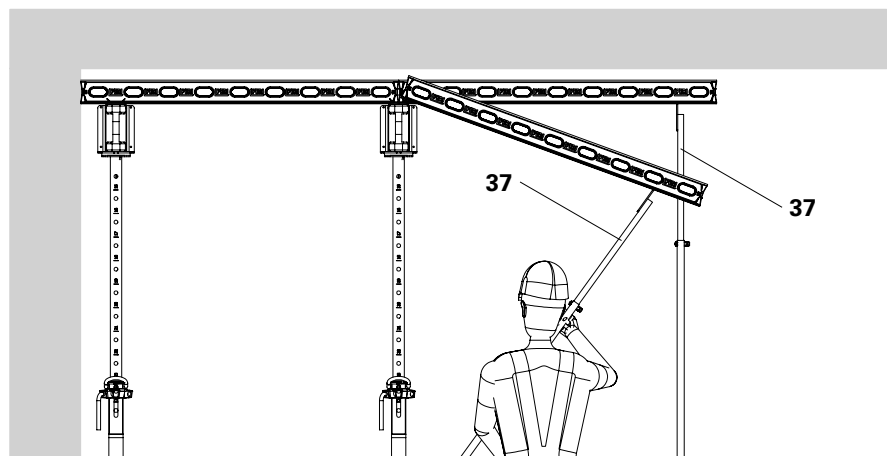

Fig. D6.24
4. Before removing a girder, support every panel that is lying on the girder using DUO shuttering aids (37). (Fig. D6.24)